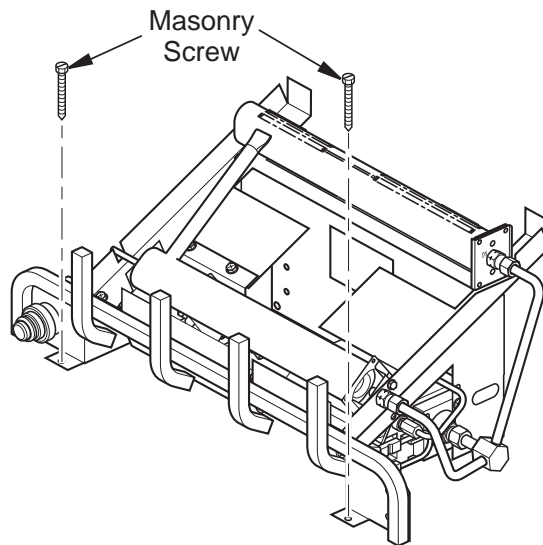

Figure 11 - Attaching Base to Fireplace Floor
3. Mark screw locations through holes in front panel of base (see **Figure 11**). If installing in a brick-bottom fireplace, mark screw locations in mortar joint of bricks.
6. Attach base, through holes in front panel of base, to fireplace floor using masonry screws provided in hardware package (see **Figure 11**).